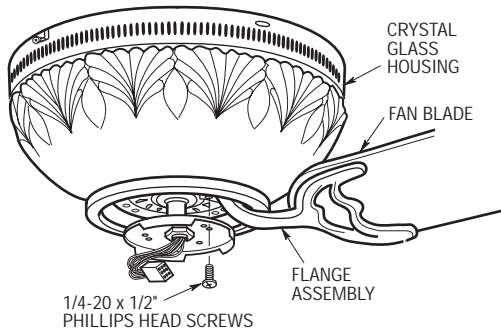

Figure 8
- 4. Attach one blade assembly to the motor using two 1/4-20 x 1/2" phillips head blade flange screws (Figure 8). Make sure the screws are tightened securely. Repeat this procedure for the other four blade assemblies.